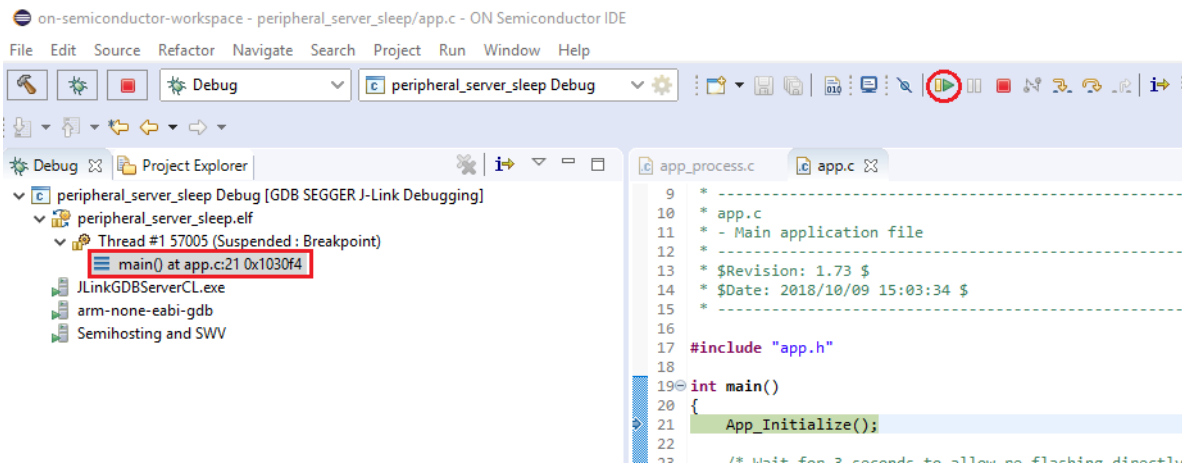

Figure 50. First Debug Session Perspective Before Starting Execution
5. Start the first debug session (which initiates target restart). Once the target is halted at `main`, resume the execution (see Figure 50).